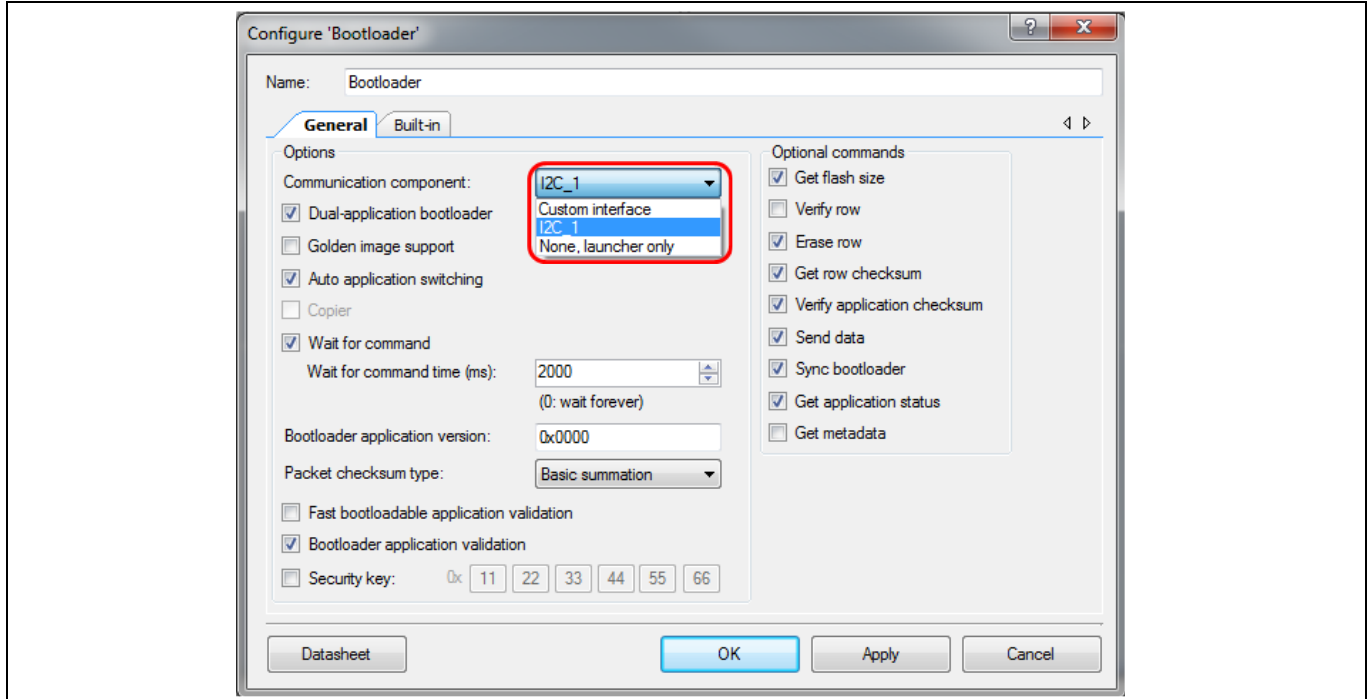

Figure 9 Bootloader component configuration
For more information, see Figure 9 on page 19 as well as the Bootloader Component datasheet.
- Bootloader Component configuration options selected (see Figure 9 on page 19)
Then, configure the Bootloader Component, as Figure 9 shows. Note the menu to select the communication Component in Figure 9 – this is the Component that is used to communicate with the host. A bootloader project must have this Component defined and selected. You can select from all of the bootloader-compatible